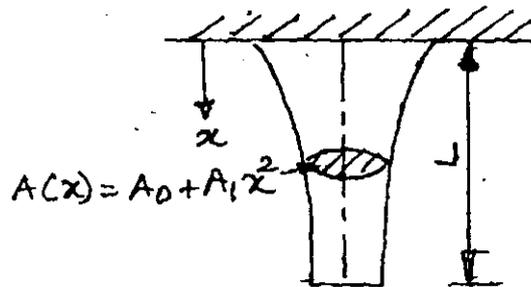

Fig. 1
11. (a) (i) Explain with an example how the node numbering scheme influences the band width of the global stiffness matrix. (5)
- (ii) Determine the axial deformation of a varying cross-section member shown in Fig. 1 under its own weight. Use one quadratic element. (11)